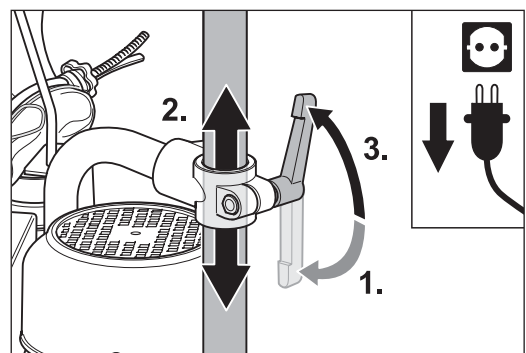
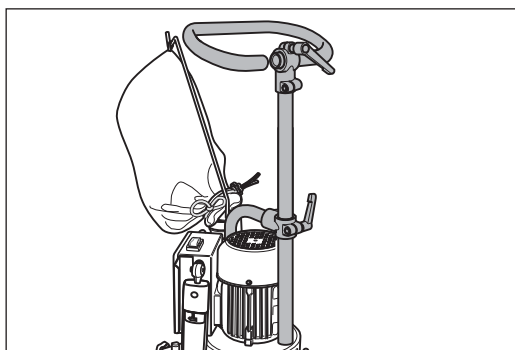

Fig. 11 Undoing the clamping lever (1.), sliding the extension to suit your height (2.) and tightening the clamping lever (3.).
Fig. 12 The extension can also be pushed all the way down to the fan housing.
- 3 To adjust the handle height, undo the clamping lever at the front end of the pipe bend (Fig. 11, 1.).
- 4 Slide the extension upward or downward (Fig. 11, 2.). At the bottom, it is also allowed to rest on the fan housing (Fig. 12).
- 5 Tighten the clamping lever firmly again (Fig. 11, 3.).